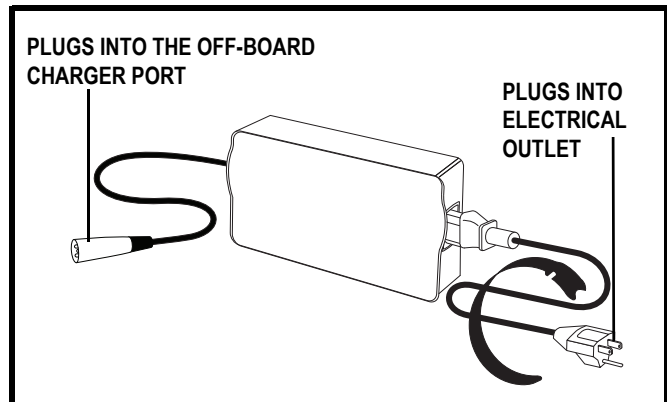

Figure 9. Off-board Charger
4. Plug the 3-pin charger power cord into the off-board charger port. See figures 9 and 10.